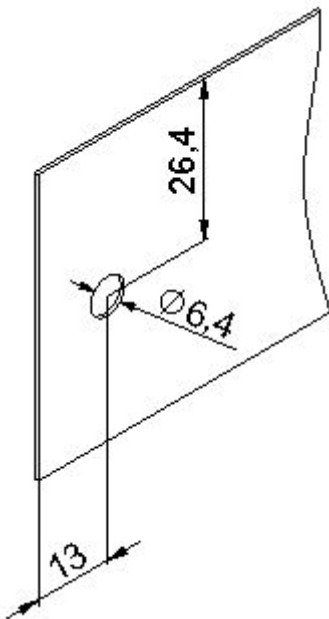
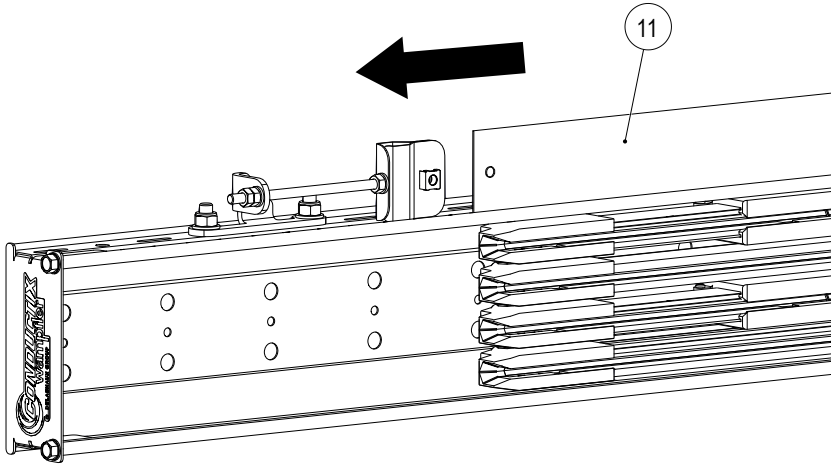
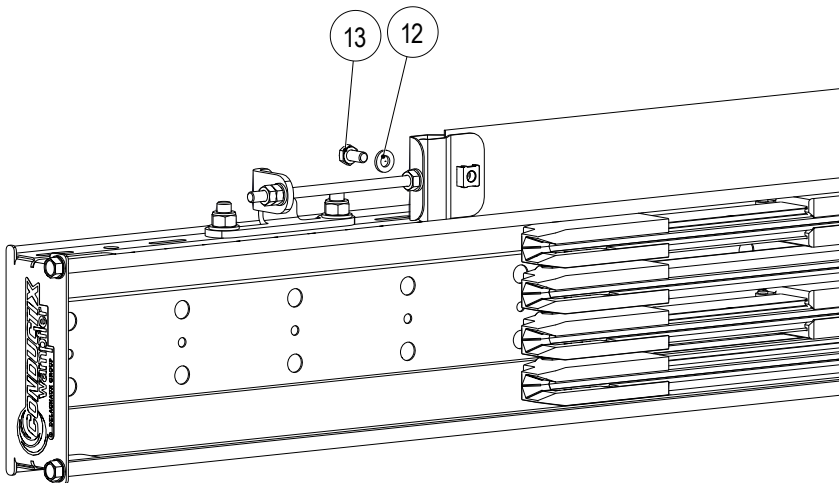

Fig. 47: Drilling pattern of positioning band profile
Fig. 48: Slide positioning band profile onto the clamping unit
Fig. 49: Install positioning band profile onto clamping unit
- b) Drill the positioning band profile where the position coding begins (see Fig. 47).
- c) Slide the positioning band profile (11) onto the fastening plate of the clamping unit and tighten the screw connections, consisting of the washer (12) and hexagon screw (13), with an open-end wrench SW 10 (see Fig. 48 and Fig. 49). The clamping unit must be readjusted, if necessary.
- f) Drill the second hole on the positioning band profile (see Fig. 47).
- a) Drill the positioning band profile at one end as shown in Fig. 47.
- b) Install the first end of the positioning band profile on the clamping unit (see Fig. 48 and Fig. 49) and clip it onto the band brackets.
- c) Drill the positioning band profile on the second clamping unit (see Fig. 47) and install it on the clamping unit of the fastening plate (see Fig. 48 and Fig. 49).